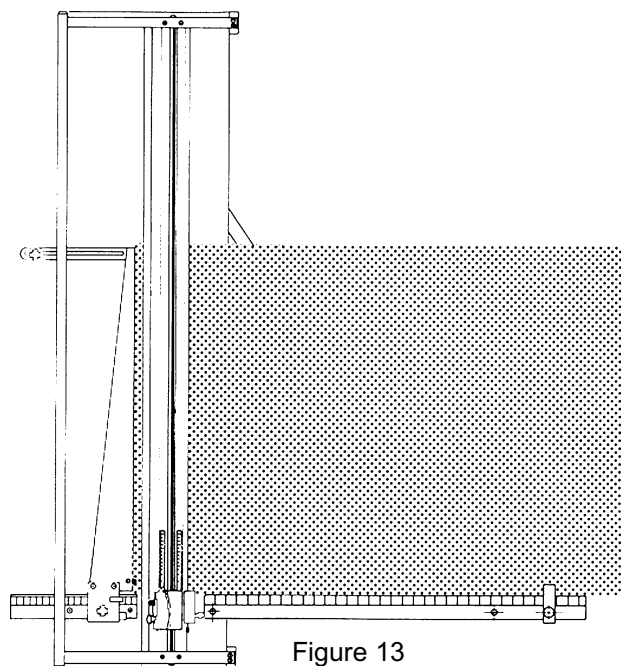

Figure 13
5. The **Mat Guide** should be locked in position on the **Mat Guide Slide**. Place a full size mat (32x40) horizontally on the **Base** with the lower edge resting against the **Squaring Arm**. Note, it is not placed on top of the scale. Slide the mat to the left so it touches the **Mat Guide** evenly along the full length of the **Mat Guide**. You will note the mat is probably not in contact along the full length of the **Right Squaring Arm**. Slide the upper end of the **Angle Brace**, under the button head screw, until the mat is in full contact with both the **Mat Guide** and **Right Squaring Arm**. See Figure 13.